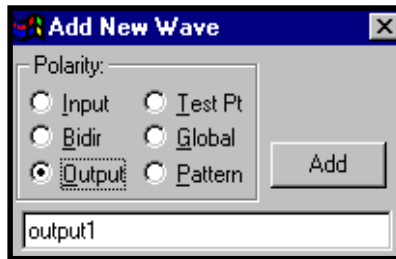

Figure 4-3. Add New Wave Dialog Box
1. Select the **Edit** ⇒ **New Wave** command. The Add New Wave dialog box (Figure 4-3) is displayed.